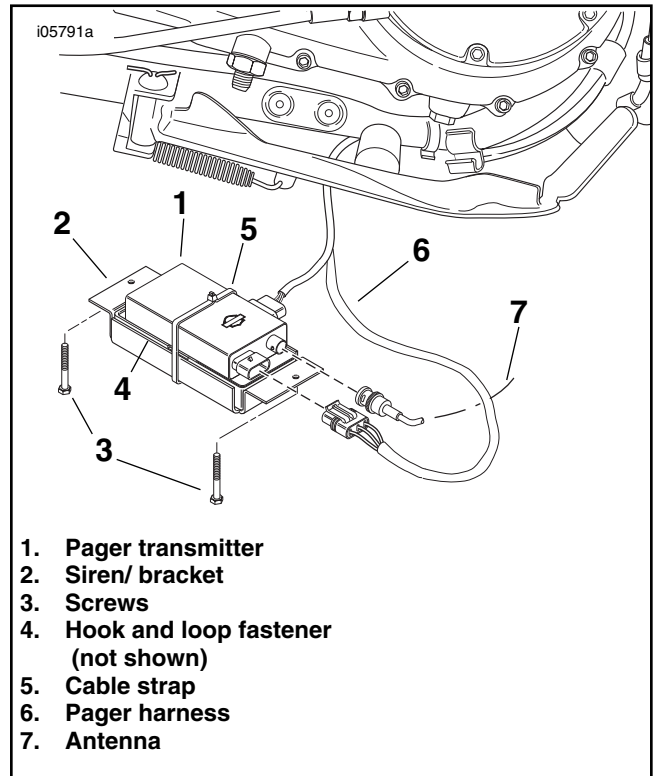

Figure 23. Install Pager and Siren
6. See Figure 23. Place the pager transmitter piggy back on top of the siren and secure with the hook and loop fastener. Secure the pager and siren to the bracket with a cable strap. Route antenna around frame and secure with cable straps.
7. See Figure 23. Re-attach the mounting bracket assembly to the crossmembers using hardware removed in step 4.